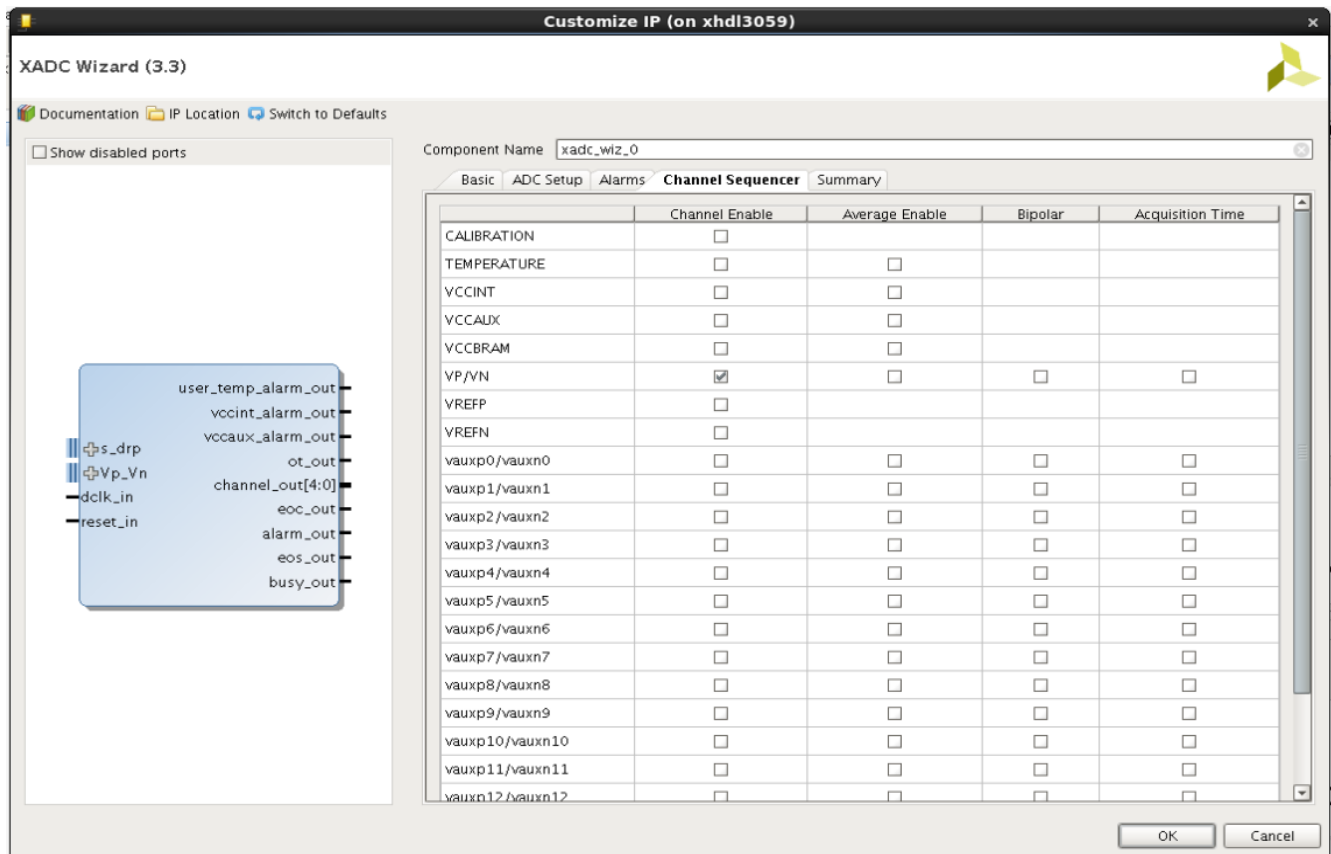

Figure 4-9: Channel Sequencer Tab
- **Channel Sequencer** – Choosing this mode, allows you to select any number of channels to monitor. The channels to be used for this mode can be selected on Figure 4-9, page 48.
Channel Sequencer (Figure 4-9) is used to configure the XADC sequence registers when the XADC is configured in Channel Sequencer, Simultaneous sampling, or Independent ADC mode. All the possible channels that can be included in the sequence are listed in the Channel Sequencer table of the Wizard shown in Figure 4-9.